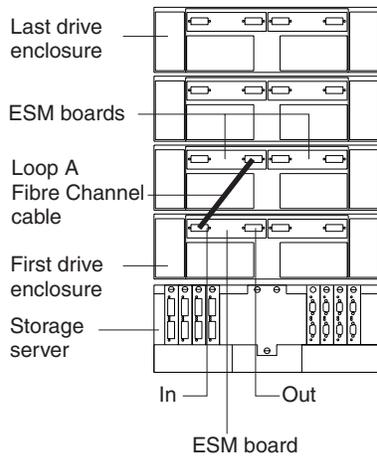

Figure 41. Connecting two drive enclosures into drive loop A
1. Connect the first two drive enclosures to drive loop A, as shown in Figure 41 on page 42.